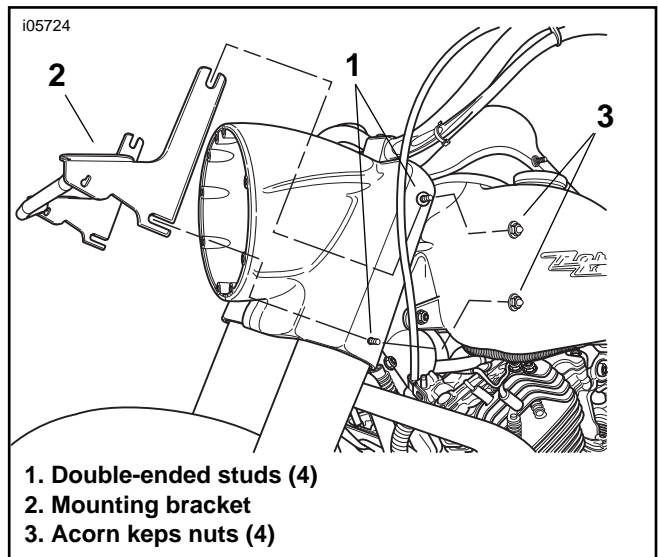

Figure 2. Install Mounting Bracket
5. See Figure 2. Install the double-ended studs (1) supplied in the kit into the upper and lower fork brackets.
7. Carefully install the mounting bracket (2) onto the studs: Slide the slots at the top of the brackets onto the top studs, then rotate the bottom of the mounting bracket until the slots at the bottom of the bracket engage the lower studs. Secure the mounting bracket using the acorn keps nuts (3) supplied in the kit. Tighten the acorn keps nuts to 18 ft-lbs (24 Nm).